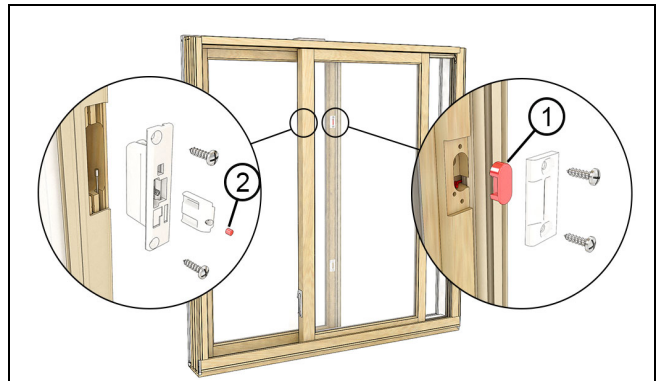

Figure 18
1. The lock status sensor is embedded behind the top keeper hardware on the stationary sash. The magnet that activates the sensor is in the top latch bolt of the operator sash. See Figure 18.